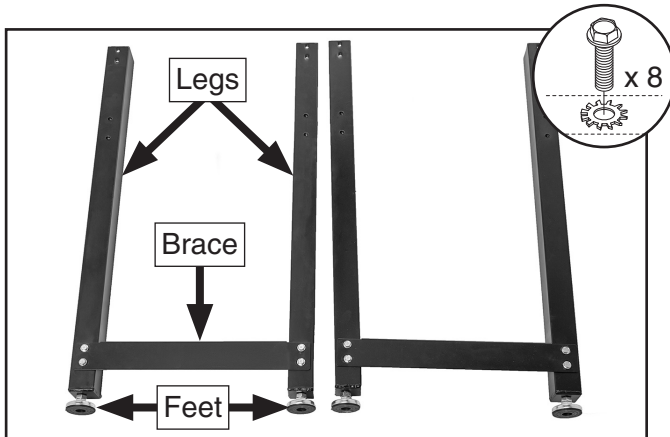

Figure 12. Legs assembled and feet installed.
1. Locate two legs (see **Figure 12**) and attach with (1) lower short brace at bottom using (4) $\frac{5}{16}$ "-18 x $\frac{1}{2}$ " flange bolts and (4) $\frac{5}{16}$ " external tooth washers. Repeat with second pair of legs and (1) lower short brace.
2. Install (4) adjustable feet in bottom of each leg (see **Figure 12**).